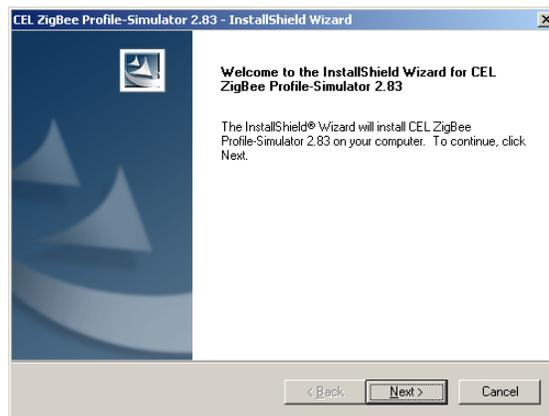

Figure 1 – *Profile-Simulator*, Welcome
- 1) Double click '**Setup.exe**'. The screen in Figure 1 will be displayed. Click '**Next**'.